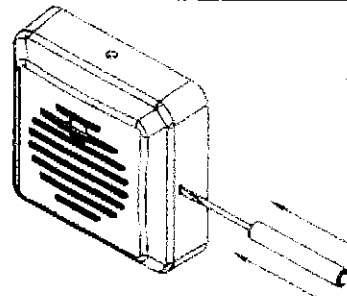

Figure 4: Removal (See step 8 below)
8. To remove the appliance, push a small flat-bladed screwdriver into the side opening. The screwdriver must clear the snap release opening by 1/4" to disengage the snap. Do not pry off housing with the screw driver. Apply pressure with screw driver, inserted in either side opening as shown in Fig 4 to release the housing.